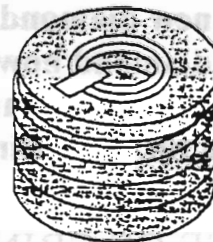

Fig. 17-2 Do not stack grinding wheels flat.
b. Do not stack the grinding wheels flat as shown in figure 17-2.